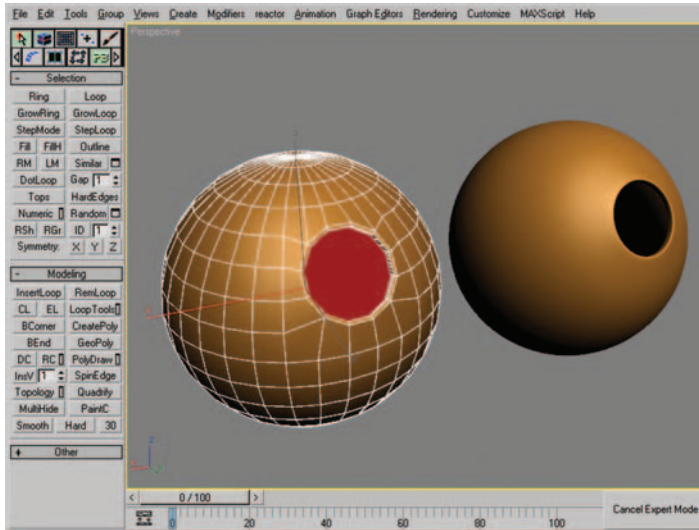

Figure 12.17 Mesh before (left) and after deleting the polygon (right). The right mesh has a TurboSmooth modifier with two iterations added to the model.
19. Delete the selected polygon and add a TurboSmooth modifier with two iterations to see the final result (Figure 12.17).